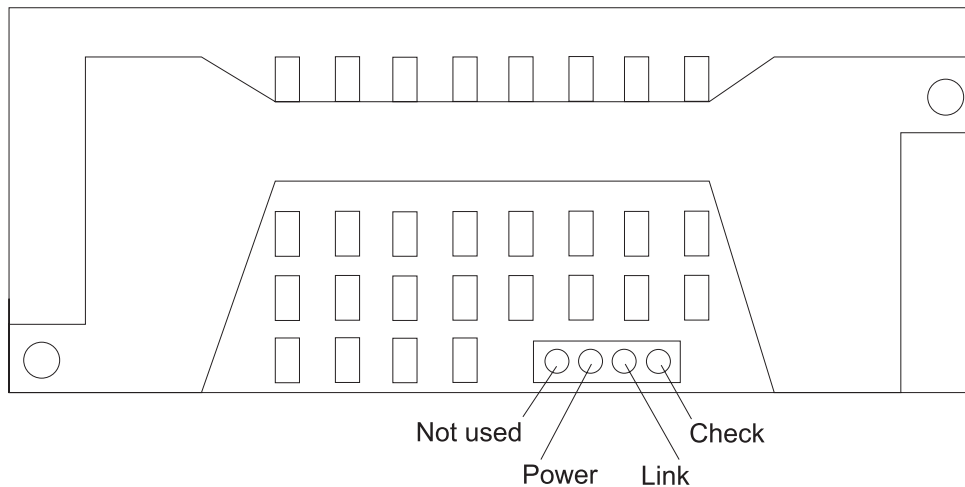

Figure 1-32. SSA DASD LED locations
- Table 1-34 explains the meaning of the four SSA status LEDs and Figure 1-32 on page 1-149 shows their locations.